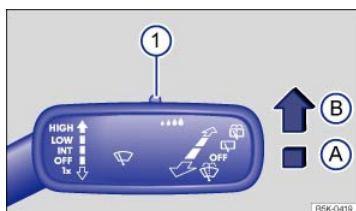

Fig. 104 Windshield wiper lever: Adjusting the rain sensor ① (if equipped).
The rain sensor's sensitivity can be adjusted manually ⇒ Fig. 104 ① ⇒ .